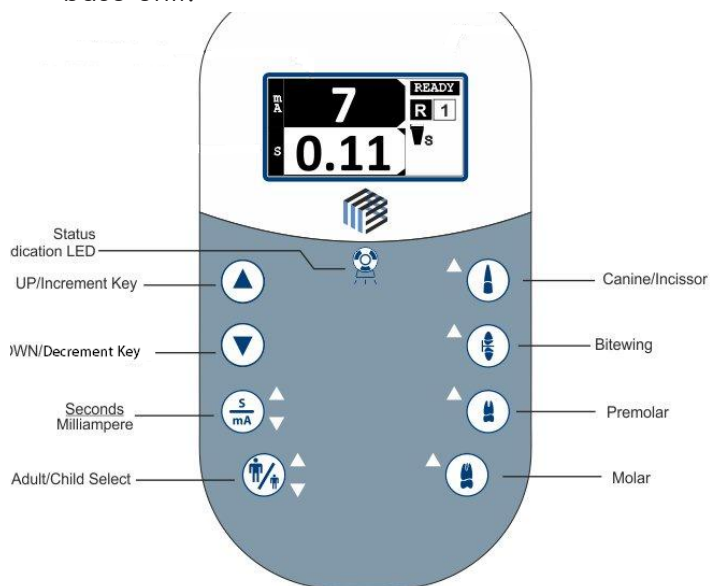

Figure 95
- Using the Control Console press the keys **Molar** followed by **bitewing, canine, premolar, molar, canine, bitewing** and **S/mA** as shown in Figure 95.
- Using the Control Console press the keys **Molar** followed by **bite-wing, canine, premolar, molar, canine, bitewing and S/mA** as shown in Figure 95.